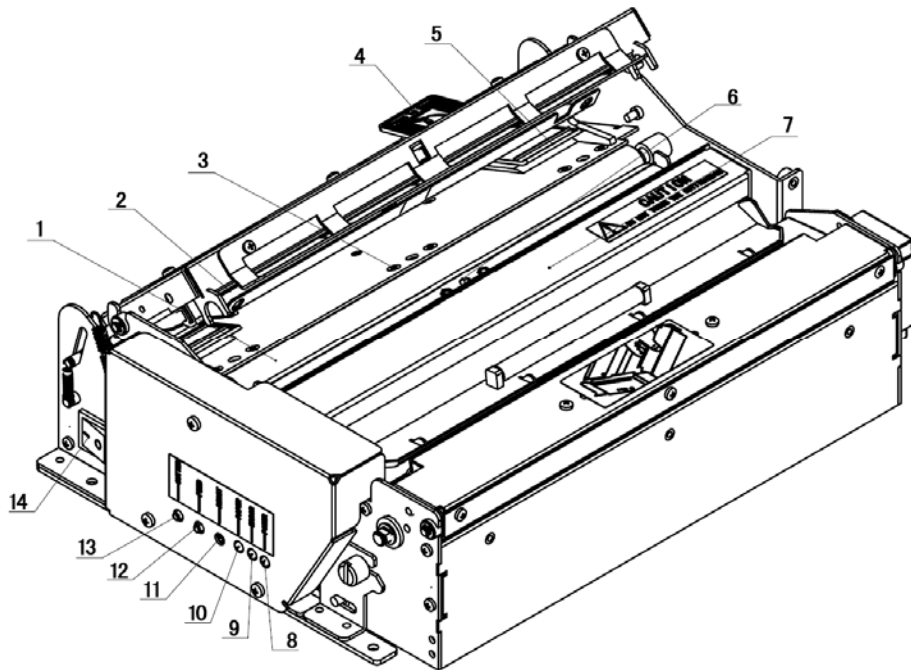
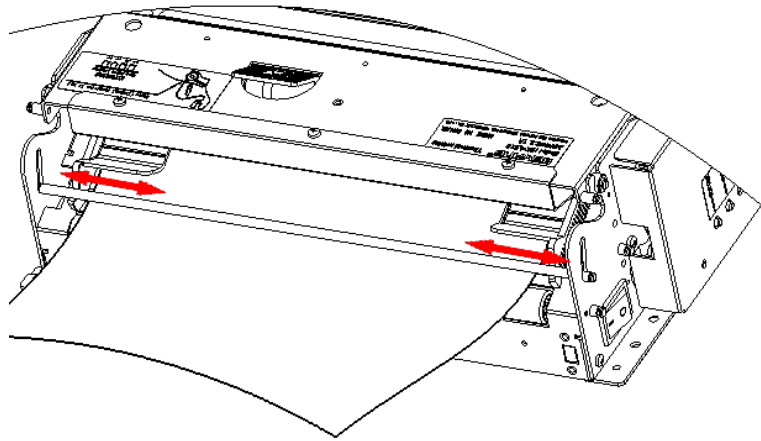

Figure 3.3.1 Printing mechanism
Figure 3.3.2 Paper guide module
- 3. Paper guide module** --It is the path before the printing shown as Fig. 3.3.1 and Fig.3.3.2. The paper guide module has two parts which can move to right or left so that users could adjust it until the paper lies in the middle of the print head. Left and right positioning parts can support the paper width from 210 to 216mm;